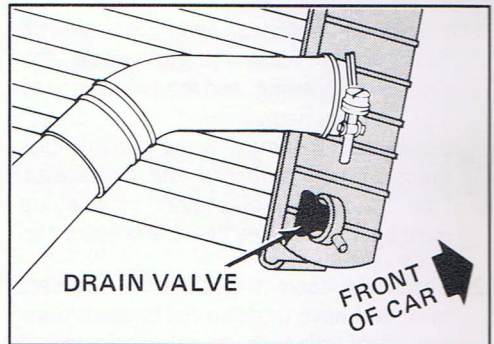
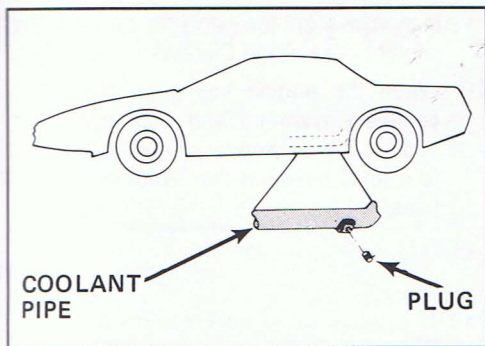

Figure 3 - Lower RH corner of radiator
Figure 4 - One coolant pipe drain plug is on each side of the car
6. Stop the engine. Open the radiator drain valve to drain the coolant. See Figure 3. Drainage may be speeded by removing the drain plugs in the engine block and in the left and right coolant pipes. The coolant pipes run underneath the car. The coolant pipe plugs are located at the rear of each pipe just ahead of the rear tires. See Figure 4. The engine block drain plug is located on the front of the engine, on the driver's side, just above the starter.